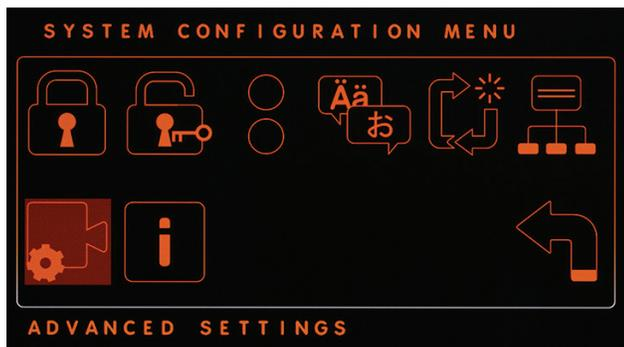
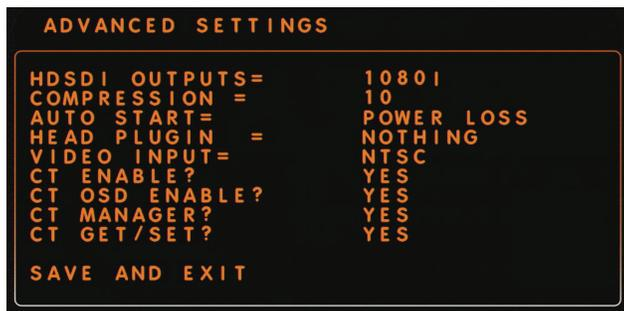

Figure 33. System Configuration Menu
Figure 34. Advanced Settings
1. From the SYSTEM CONFIGURATION MENU screen (Figure 33), use the **Up** and **Down** arrows on the control unit or the left and right Camera Head buttons to navigate to the **Advanced Settings** icon. Press **Select** to open the ADVANCED SETTINGS screen (Figure 34). To exit the ADVANCED SETTINGS screen, navigate to **SAVE AND EXIT** and press **Select**.